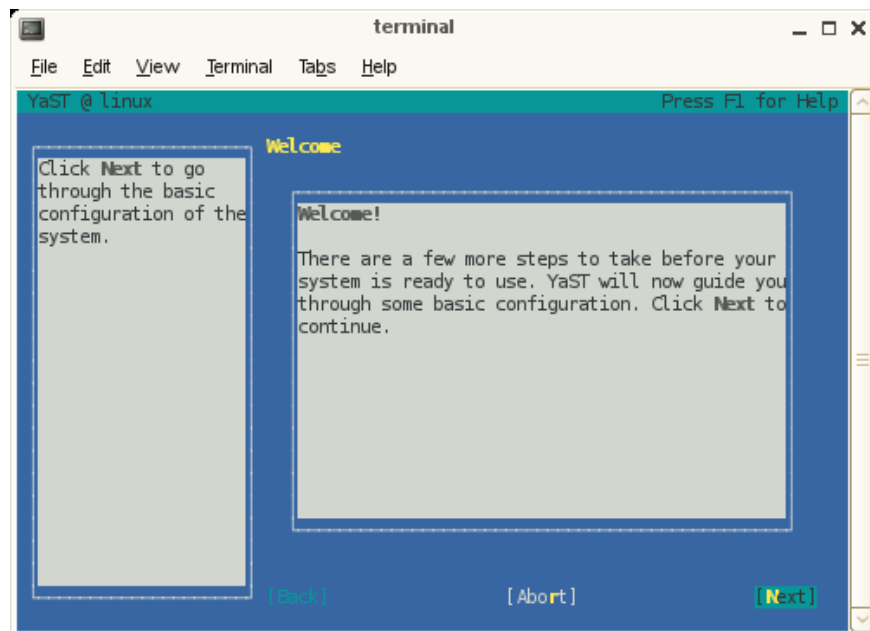

Figure 2-2 YaST **Welcome** Screen
6. After the reboot completes, the YaST first boot installation tool starts and a `Welcome` screen appears, as shown in Figure 2-2 on page 35. Click on the `Next` button to proceed.